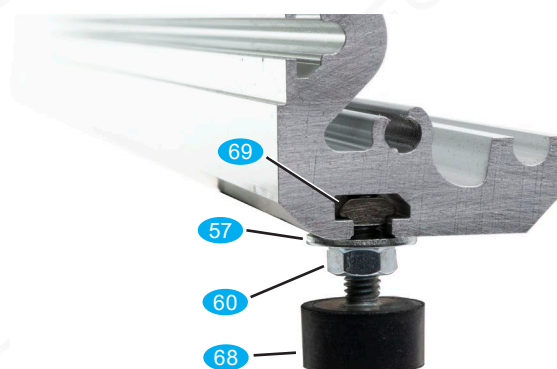

Fig. 16: Installation of rubber foot
- Complete the rubber feet **68** with an M6 nut **60**, a washer **57** and a sliding block **69**. Insert the feet with the sliding block into the lower longitudinal groove of the side profiles and screw the feet tight as shown in Fig. 16.